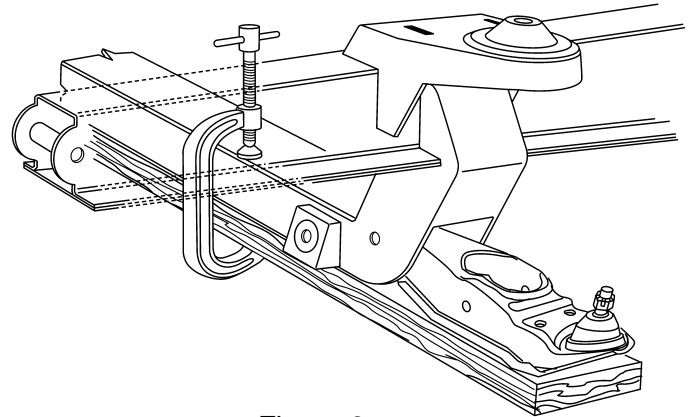

Figure 6
8. If you are using factory lower control arms and strut rods you will continue here. Use the lower control arm and strut rod for locating the rear strut rod supports and gussets. Using a 2 x 4 and a C-clamp, install the control arm as shown in Figure 6.